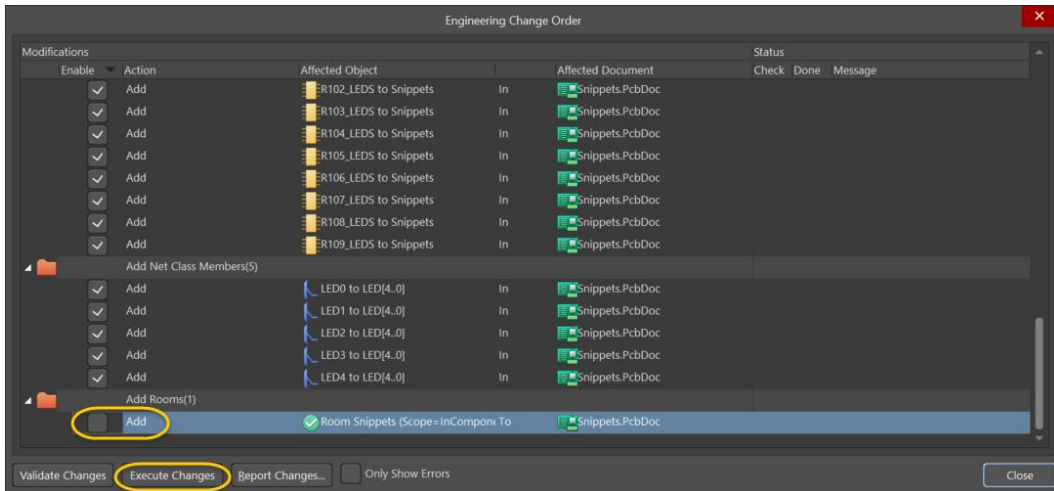

Figure 18. Engineering Change Order for new designators
51. Scroll down and disable the addition of Rooms by unchecking the **Add Rooms** checkbox as shown in Figure 18.